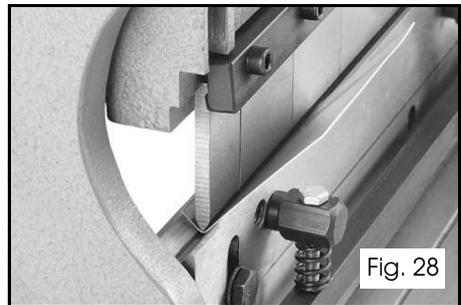

Fig. 28
3. While holding the workpiece steady, use the hand crank to raise the finger receiver to perform the desired bend (see Figure 28 for an example), then lower the receiver and remove the workpiece.